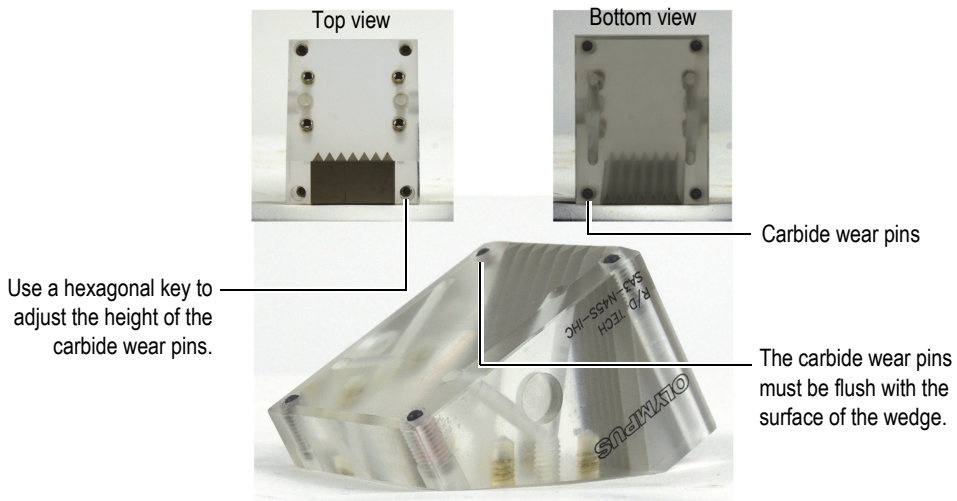

Figure B-1 Wedges—Adjusting the carbide wear pins
Wedges are designed to hold a transducer or a phased array probe in order to ensure an adequate ultrasonic diffusion through the surface being inspected, and to direct the couplant flow correctly. To limit wear of the wedge, carbide wear pins can be inserted at each corner of the contact surface of the wedge (see Figure B-1 on page 102).
2. Use a hexagonal key to adjust the height of the carbide wear pins on each installed wedge. Ensure that the top of each pin is flush with the surface of the wedge (see Figure B-1 on page 102).